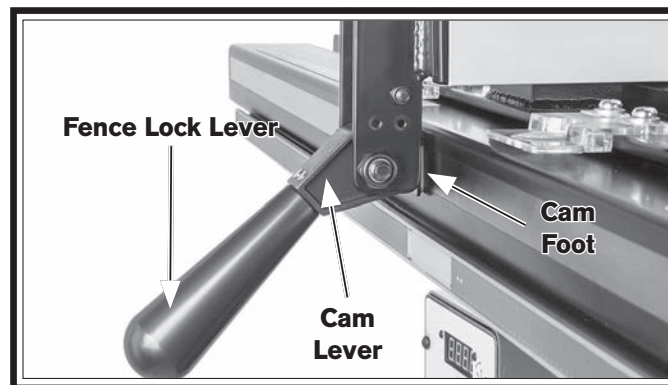

Figure 37. Fence installed on rails.
7. Install fence lock lever as shown in **Figure 37**, then place fence on rail on right hand side of blade.
Note: Make sure cam foot contacts cam on fence lock lever as you place fence on rail; otherwise, fence will not lock onto rail tube (see **Figure 37**).